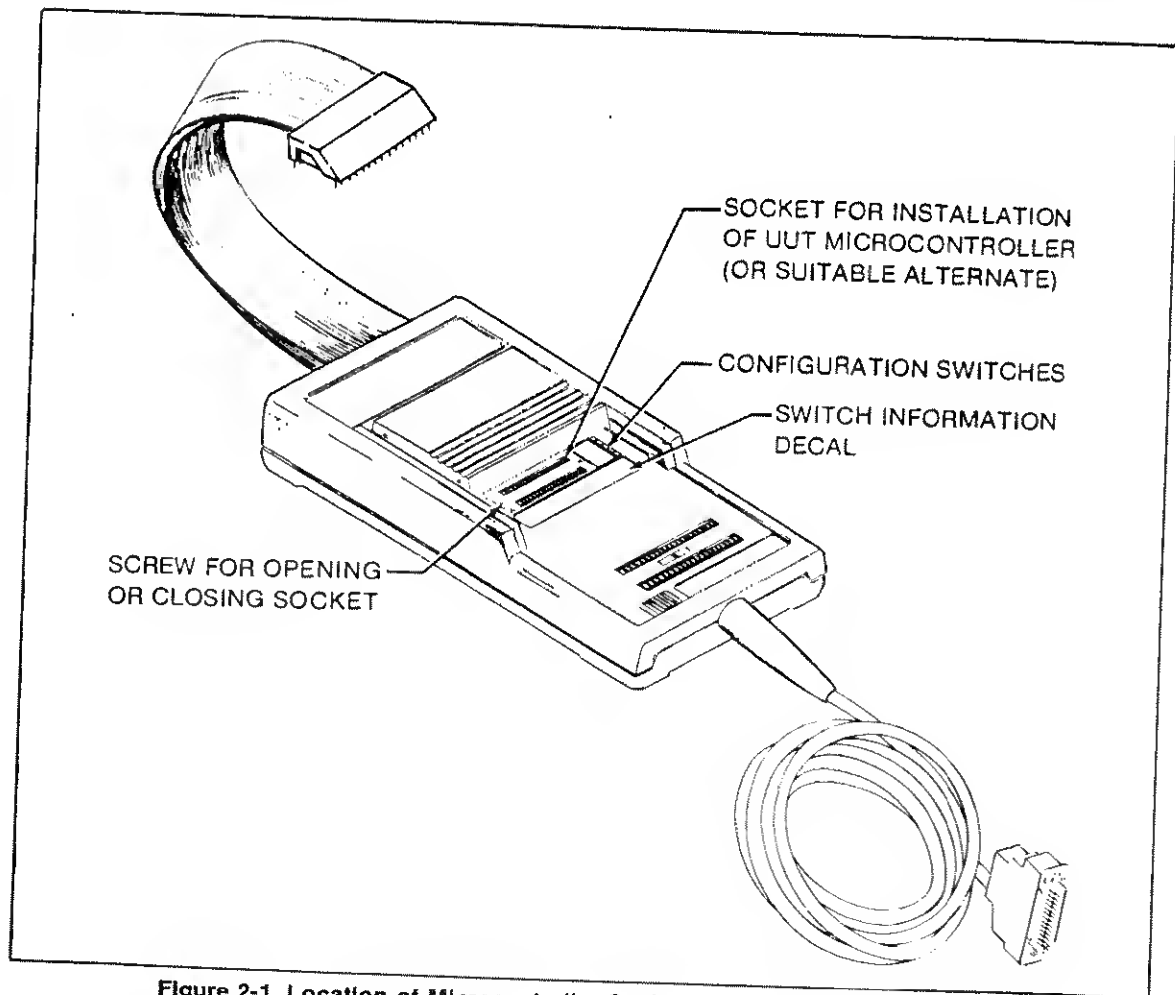

Figure 2-1. Location of Microcontroller Socket and Configuration Switches
3. Open the sliding door on the top of the Pod (shown in Figure 2-1) to expose the microprocessor socket. Open the Pod socket by using a screwdriver to turn the screw at the end of the socket. Turn the screw counterclockwise to open the socket. Insert the microprocessor into the socket, aligning pin 1 to the marked position. Turn the screw clockwise to close the socket.
There are eight configuration switches, located on the top of the Pod under the sliding cover (see Figure 2-1). Table 2-1 and a label on the Pod show the switch positions. A brief description of each switch function follows: